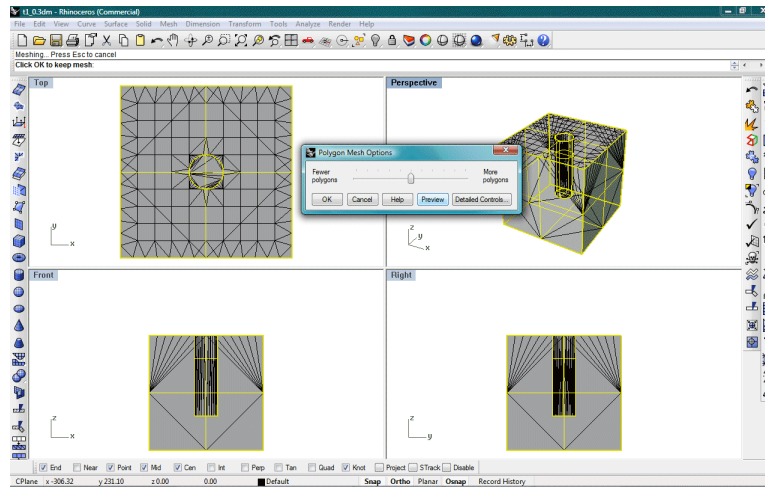

Figure 41: Preview of the surface mesh
5. In the simplified dialog box, move the slider control to the **middle** and click on **Preview** to see what the resulting surface mesh will look like (Figure 41).